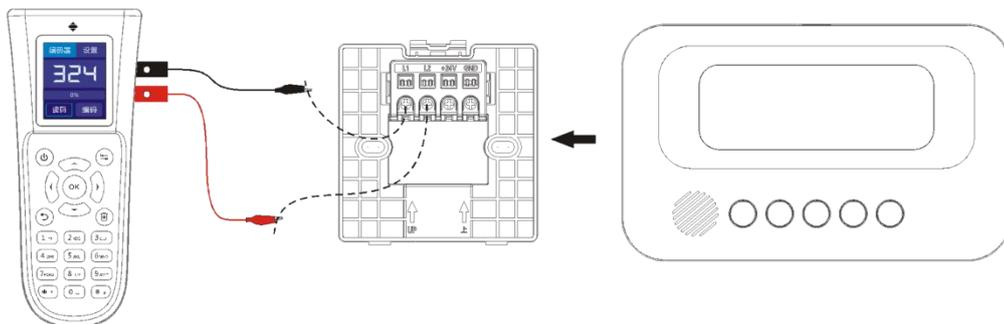

Fig.4 Coding diagram
**5.3 Address coding:** As shown in Fig.4, connect the bus input end of the Fire Indicating Panel with the encoder coding end, L1 and L2 adopt non-polar connection, set the encoder as the coding function, write the correct address code, press the "coding" key to complete the address coding setting.